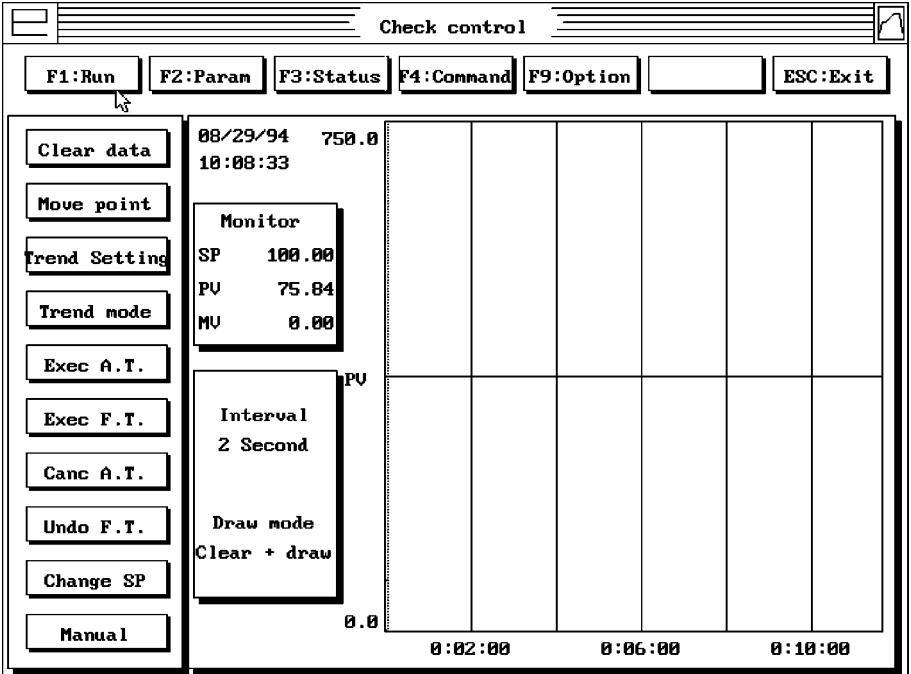

Figure 32
- 2. Select **Exec. F.T.** from the menu on the left side of the screen (Figure 32).